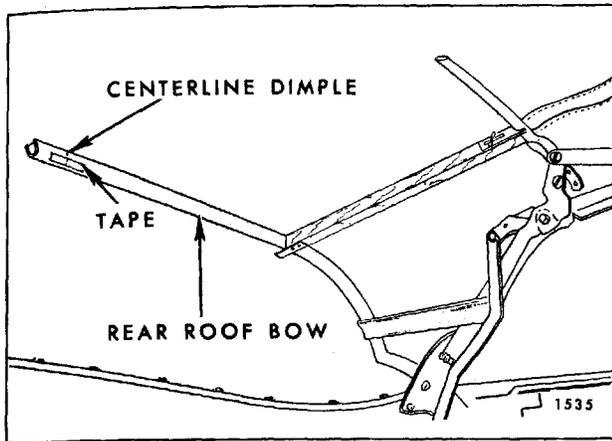

Fig. 6-40—Marking Rear Roof Bow
5. Along forward surface of rear roof bow install a 1" piece of tape at centerline dimple of rear roof bow. Using a pencil, mark centerline of rear bow on tape (Fig. 6-40).
**NOTE:** The deck seam mark will vary slightly ( $\pm 1/4''$ ) depending upon position of rear roof bow. Also check centerline mark on inner lining of top material. Mark should correspond to centerline mark on rear roof bow. (Fig. 6-40).